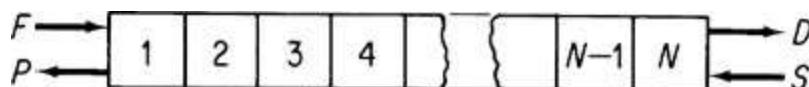

Figure P12.4
- 12.4. Figure P12.4 shows a simple absorber or extraction unit. S is the absorber oil (or fresh solvent), and F is the feed from which material is to be recovered. Each stage has a Q (not shown); the total number of equilibrium stages is N . What is the number of degrees of freedom for the column? What variables should be specified?